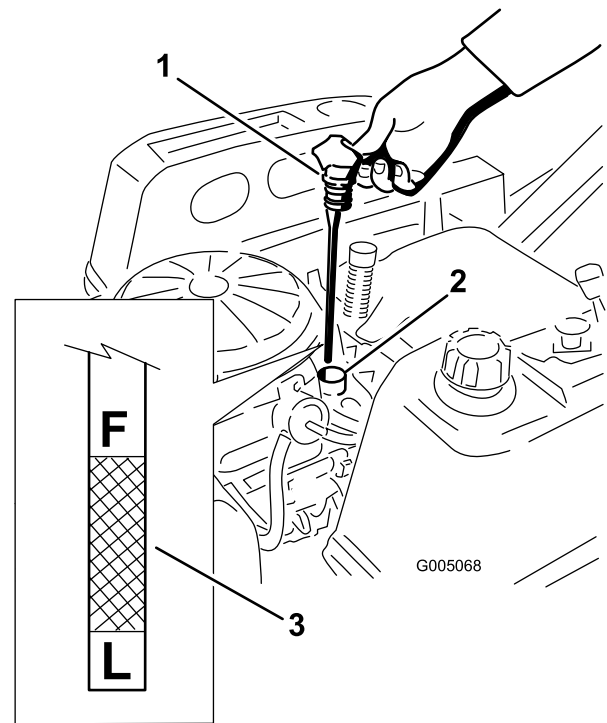
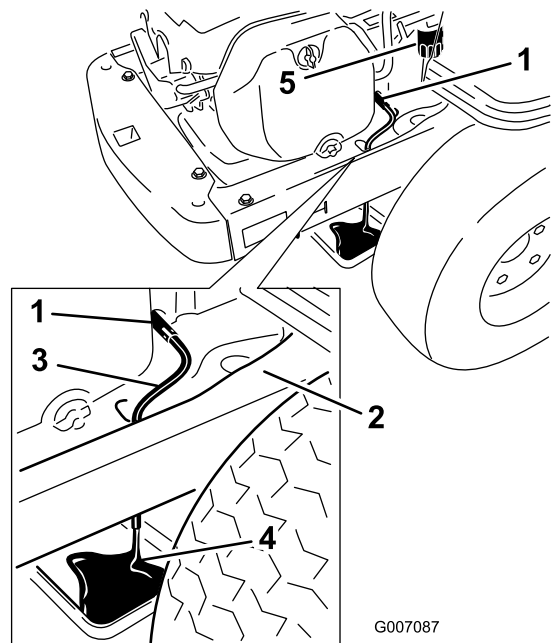

Figure 34
Figure 36
- Pull and remove the oil fill cap/dipstick; wipe oil off. Reinsert the dipstick and push firmly into place (Figure 34).
- Remove the dipstick and check the oil level. (Figure 34).
7. Place a pan underneath machine directly below the drain hole in the frame as shown in Figure 36.
8. Turn the drain valve 1/4 counter clockwise to open and allow the oil to drain (Figure 36). Remove the oil fill cap/dipstick (Figure 34).
10. Remove the old filter and wipe off the mounting pad (Figure 36).
11. When oil has drained completely, close the oil drain valve. Remove the oil drain hose and wipe up any excess oil on the frame (Figure 36).
15. Slowly pour approximately 80% of the specified oil into the filler tube (Figure 34).
16. Install the oil fill cap/dipstick and push firmly into place (Figure 34).
17. Check the oil level (Figure 34); refer to Checking the Oil Level.
19. Install the oil fill cap/dipstick and push firmly into place (Figure 34).